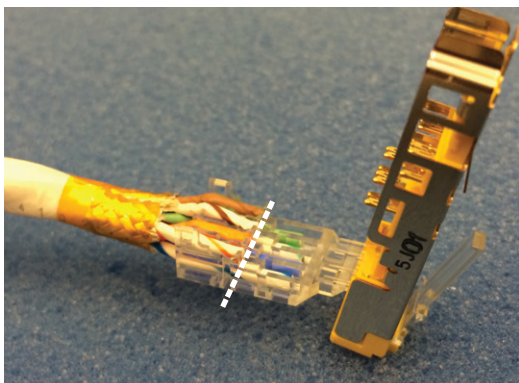

Figure 13: Cutting the top row of wires
11. Using cutters, cut the top row of wires flush with the edge of the top row on the connector (Figure 13). This will prevent the top wires from shorting to the bottom wires.